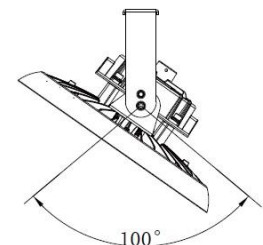

Figure 6
4. Connect the two ground wires together before connecting the two white neutral wires to each other and the two black wires to each other. By adjusting the bracket screws, the fixture can be vertically adjusted 50° to the left or right (Figure 6).